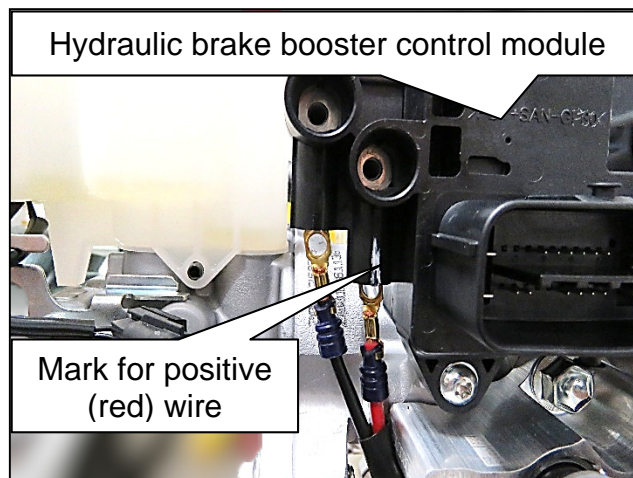
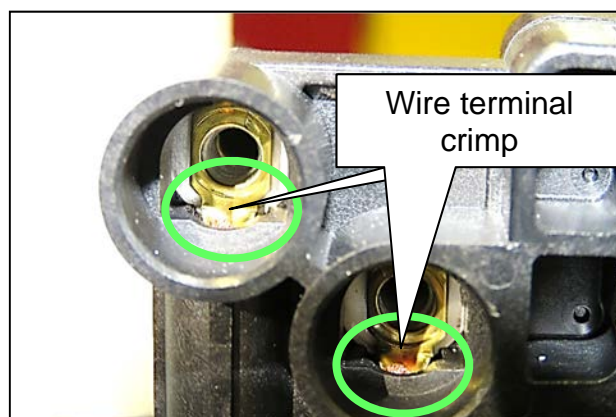

Figure 26
Figure 27
- When installing the power supply wires to the hydraulic brake booster control module, ensure the terminal crimp faces outward, as shown in Figure 26 and Figure 27.